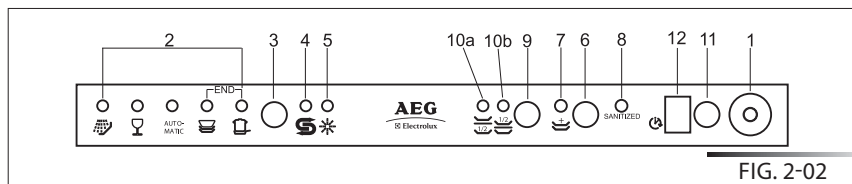

FIG. 2-02
The dishwasher is equipped with a control panel (see fig. 2-02) which is used to program the appliance and switch it on and off.
To run programs **6, 7, 8, 9, 10** (see tab. 2-02b), select the required standard program (see programs 1, 2, 3, 4, 5 in tab. 2-02a) and then press the **supplementary program button** (ref. 6 fig. 2-02).
Press the on/off button (ref. 1 fig. 2-02) to start the dishwasher. Then wait for one of the **program indicator lights** to turn on (ref. 2 fig. 2-02).
- Press the **program selection button** (ref. 3 fig. 2-02) several times until the indicator light corresponding to the required program turns on (ref. 2 fig. 2-02);
The supplementary program button (ref. 6 fig. 2-02) adds **five extra programs** to the ones that can be directly selected with the program selection button.
- To cancel the current program, open the door and press and hold down the **program selection** button (ref. 3 fig. 2-02) for a few seconds until the indicator lights of the fourth and fifth programs turn on (ref. pr. 4, pr. 5 fig. 2-03).
The half-load wash cycle can be selected in two different ways using the **half-load wash** button (ref. 9 fig. 2-02):
- press the button **once** to select washing in the **upper rack**. This is confirmed by the relative indicator light (ref. 10a fig. 2-02);
- press the button **twice** to select washing in the **lower rack**. This is confirmed by the relative indicator light (ref. 10b fig. 2-02);
Before programming a delay, open the door of the dishwasher, select the required washing program (see para 2.2 "Setting the washing program and switching on and off"). Select the day by pressing the **Program delay** button (ref. 11 fig. 2-02); each time you press the button, the display increases the delay before the appliance starts by **1 hour**.
Turn off the appliance by opening the door and pressing the **on/off button** (ref. 1 fig. 2-02).